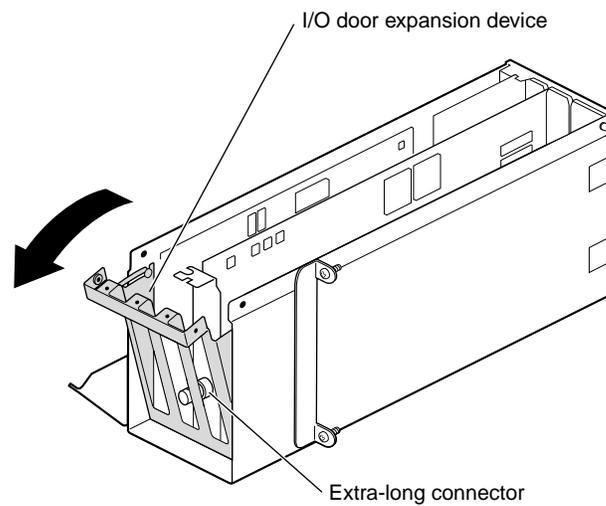

Figure 4-38 Opening the I/O Door
3. Slide open the I/O door, as shown in Figure 4-38.